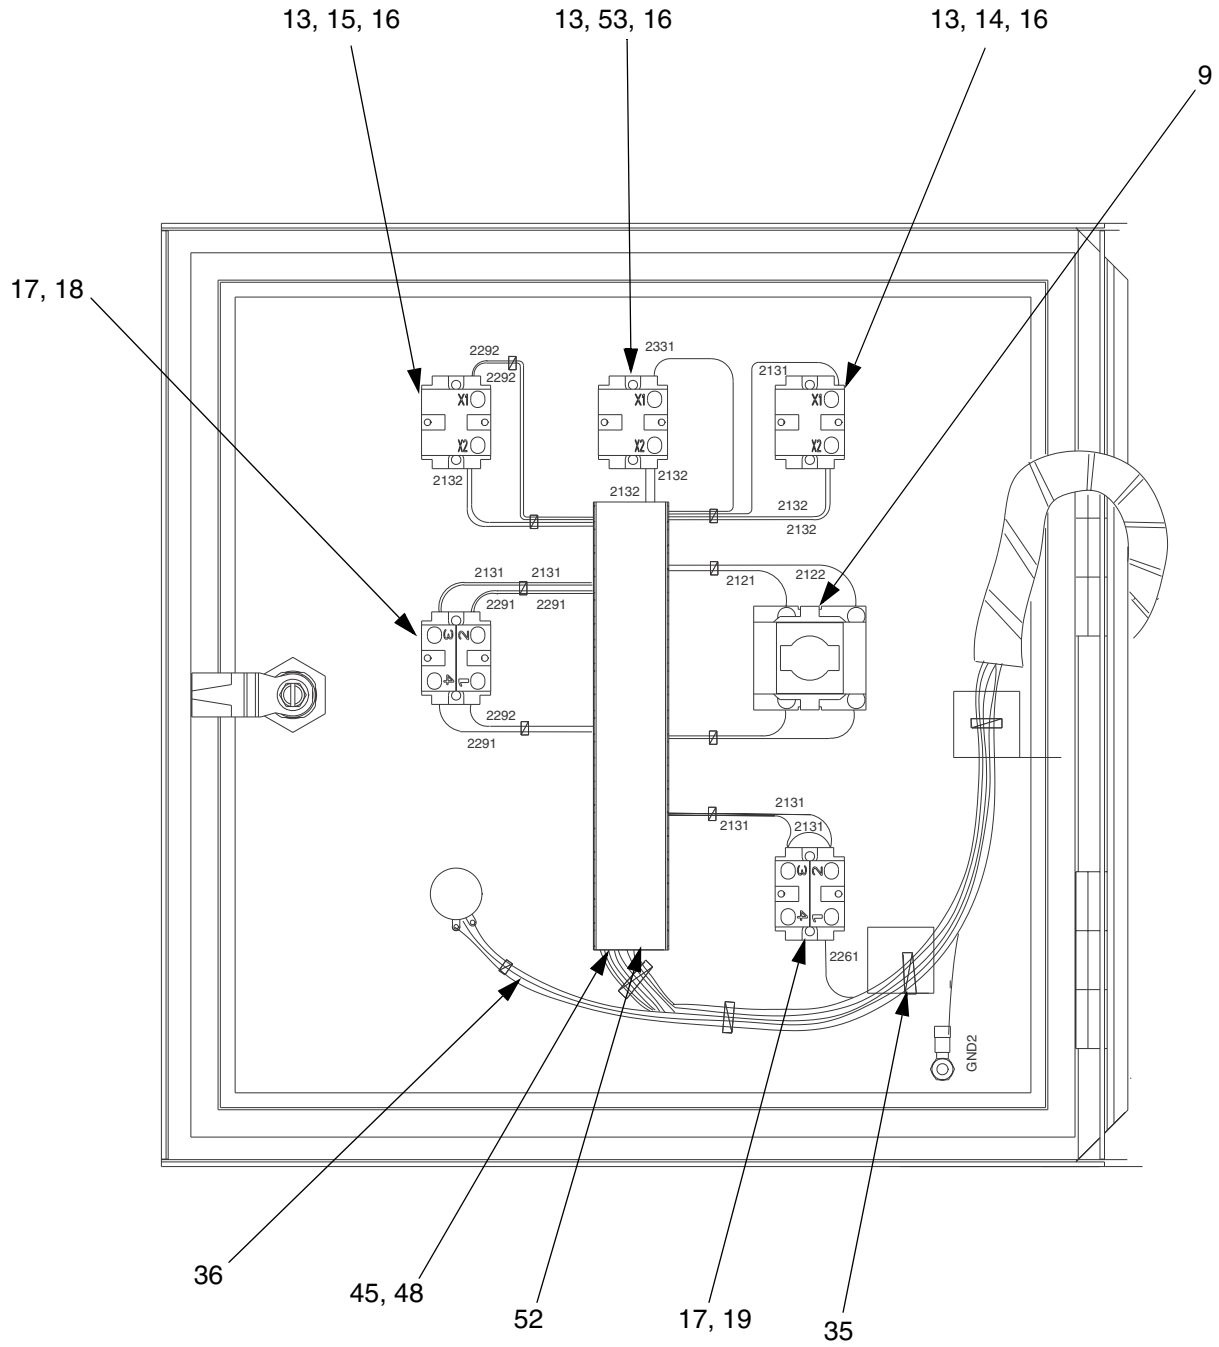
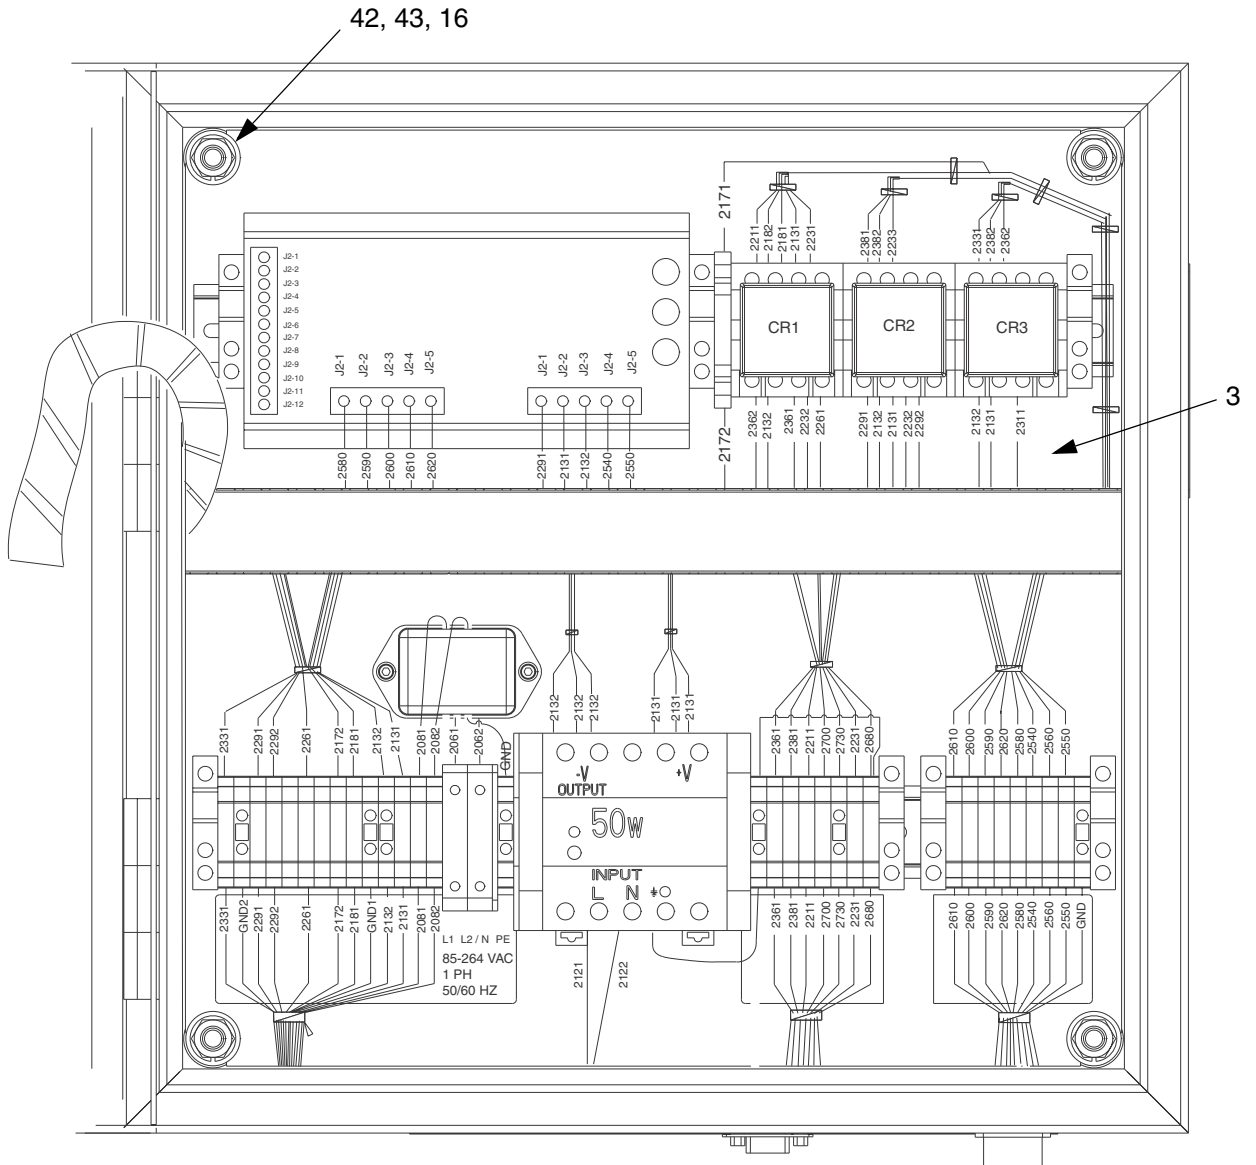

FIG. 21
FIG. 22
5. Open the fuse holder fully. Locate the failed fuse inside. Refer to FIG. 21 and FIG. 22 for fuse identification.
6. Carefully remove the fuse (24) from the fuse holder.